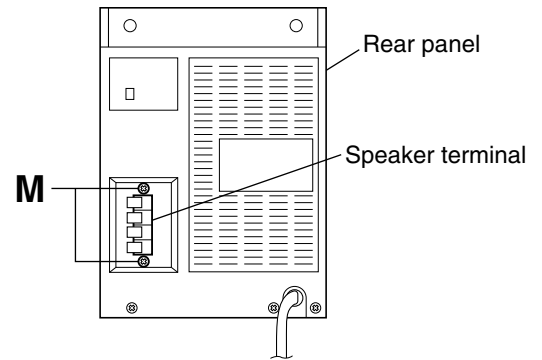

Fig.17
- Remove the main board according to its disassembly method (see **Figs. 17 and 18**).
(See Figs. 17 and 18.)**